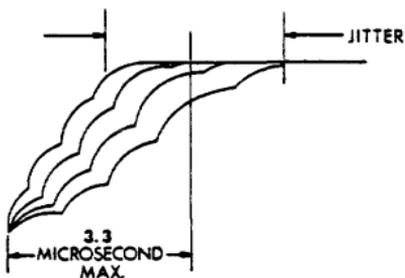

FIGURE 9
- With a master skew tape loaded, IPL the system and enter 00000d (d = device) on the CRT and TRANSMIT. A staircase wave-form (see Figure 9) should be displayed, with the first positive step triggering the oscilloscope sweep. The time between the first and last step represents the total read skew and should be less than 3.3 microseconds.